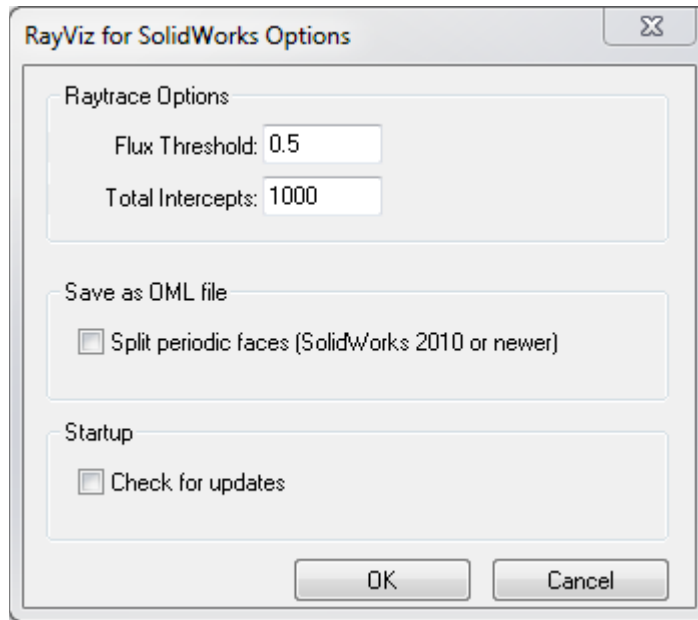

Figure 3.5 RayViz for SOLIDWORKS Options dialog.
- **Options** : This selection allows you to customize the operation of RayViz as shown in Figure 3.5. With the dialog that is displayed you can change the default settings.